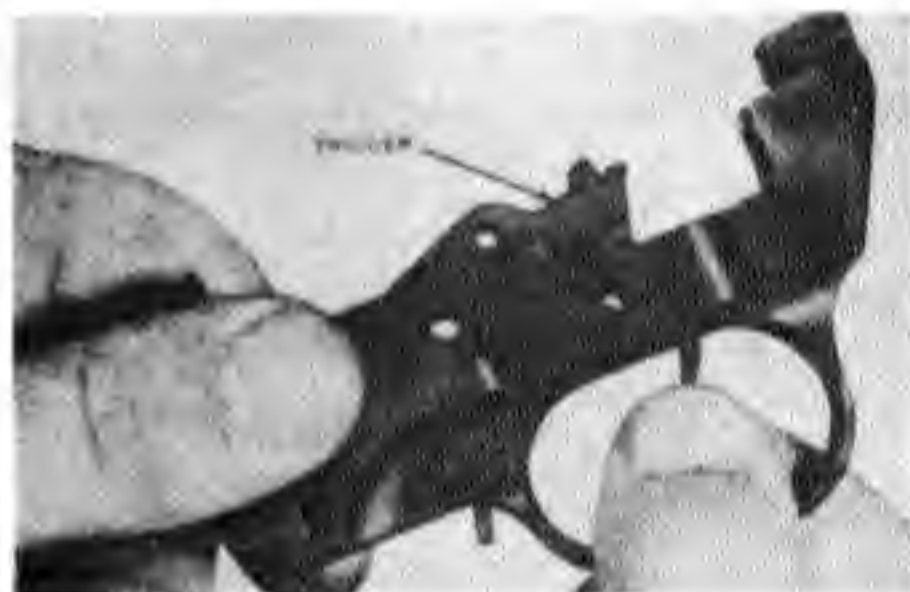

Figure 22. Removing the trigger.
d. Hold the trigger housing group as shown in Figure 22. Move the trigger forward and then rotate the rear of the trigger upward and forward out of the top of the trigger housing group. Remove the trigger spring from the trigger housing group during this step.